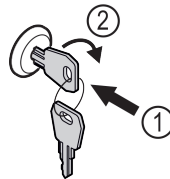

Fig. 168
- Insert the key. Fig. 168 (1)
- Turn the key clockwise by 90°. Fig. 168 (2)